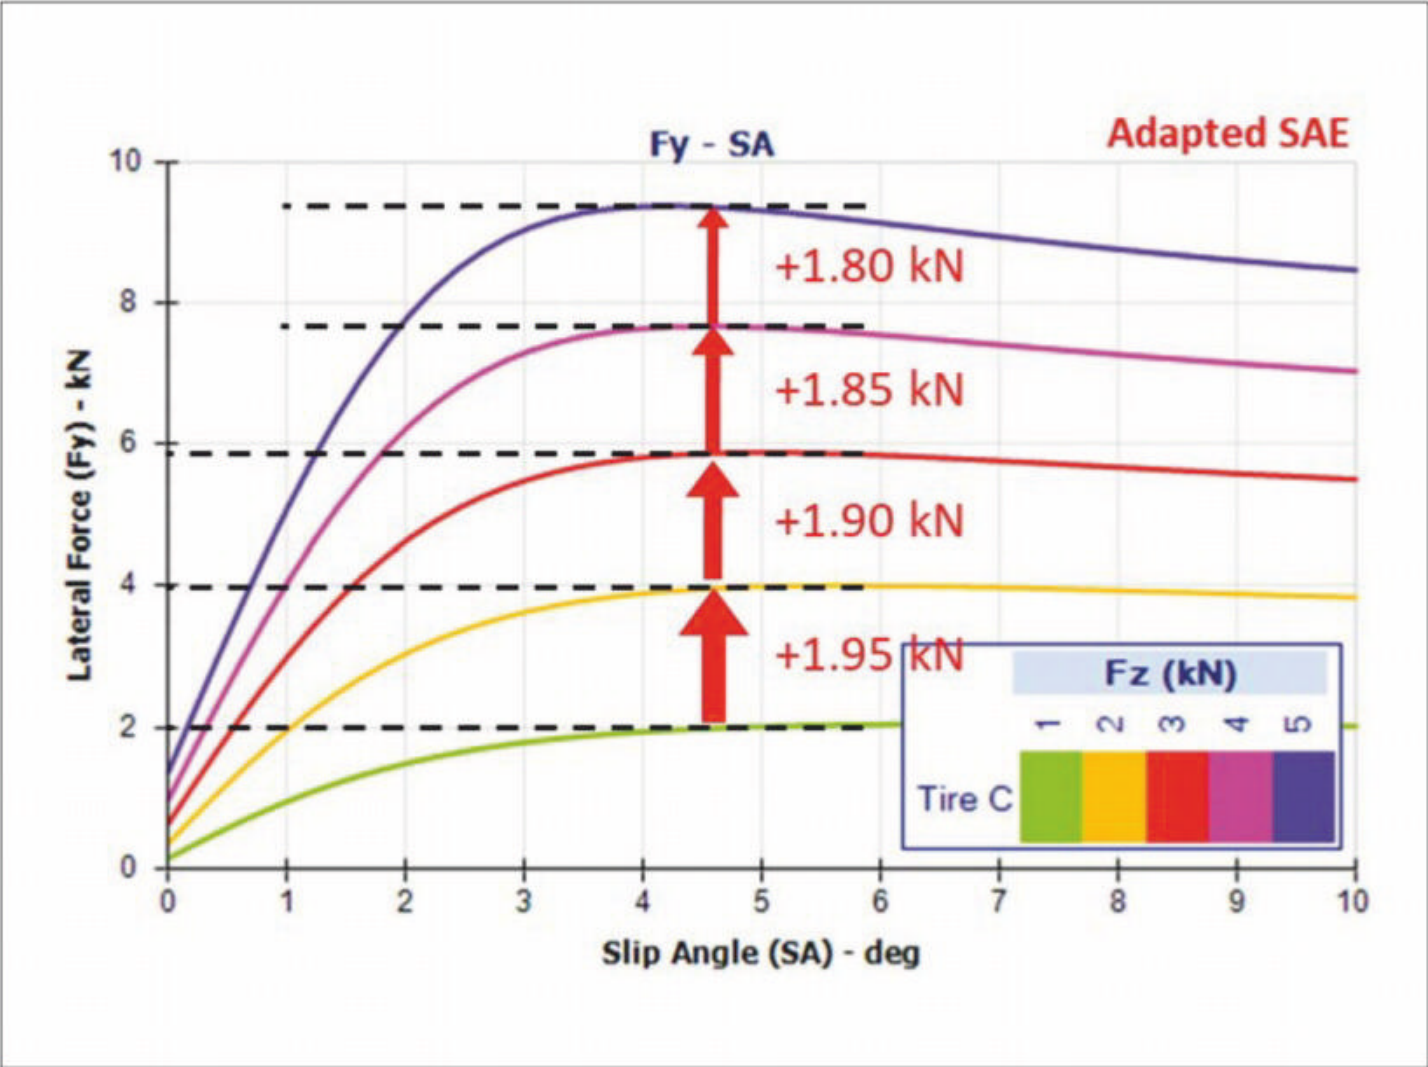
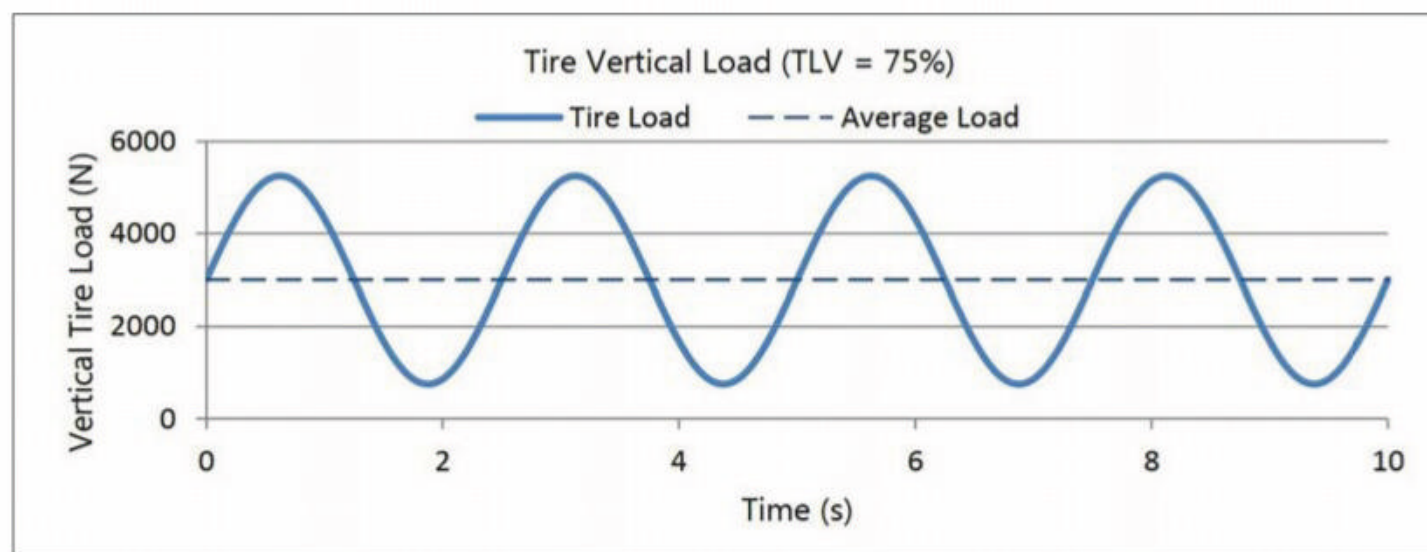

Figure 1: This shows lateral force (F_y) vs slip angle (SA) for five different vertical loads (F_z). It is the classic F_y -SA tyre chart
Figure 3: Load on a racing tyre for a sinusoidal profile. Variation is shown as the blue wavy line, with the average running through it
Figure 1 shows a typical lateral force (F_y) versus slip angle (SA) curve, for five different vertical loads at zero degrees of camber, and a constant pressure. When testing a tyre, a typical chart used to understand the tyre's lateral performance is an F_y -SA,
In Figure 1 we have plotted the same tyre at five different conditions (five different loads), and for each increase in vertical load we measure the lateral force. What we can observe is that as we increase the
Table 1: Table representation of Figure 1
Table 1 shows the same as in Figure 1. If we display it in a table, we can see more clearly that the friction coefficient is decreasing as we increase the load. The friction coefficient is calculated by dividing the lateral force per the corresponding vertical load (column two divided by column one).
you lose from the decreased load at a higher factor. We can see the size of this effect if we have a good idea of the lateral friction factor of the tyre at different loads (as in Figure 1). In **Figure 3** we see a possible time-based load variation on a race tyre. In the plot we have a static reference load (average load) of 3000N and we are varying the load by 75 per cent (750N to 5250N) either way.